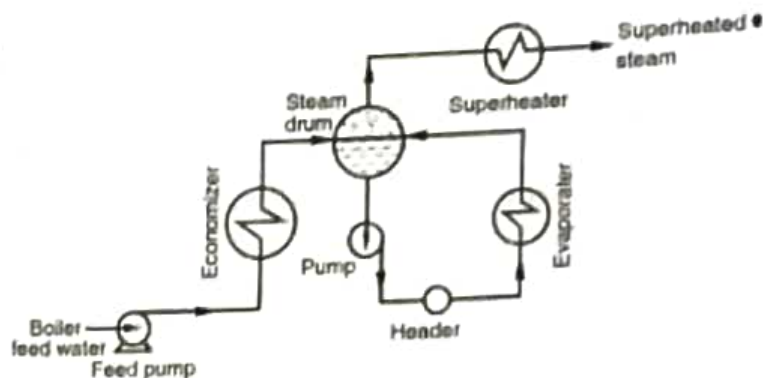

Fig. 6.2 Forced Circulation
- (2) **Forced Circulation Boilers (Fig. 6.2)** : Water is circulated through boiler circuit by a pump. Low capacity boilers use natural circulation, while only high pressure-high capacity boilers use forced circulation.